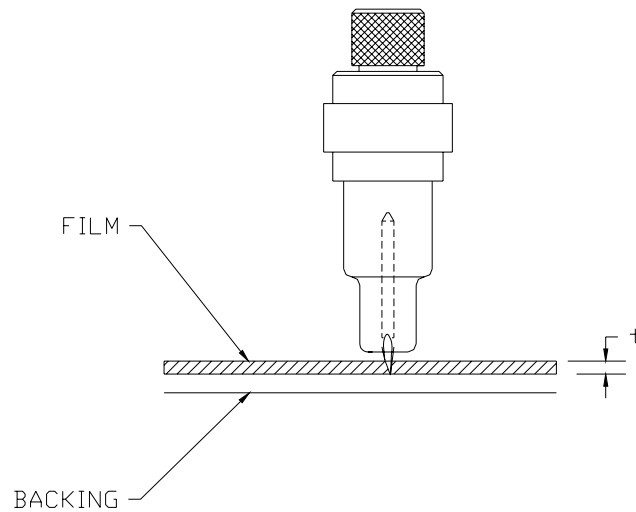

FIGURE 1-10
3. Extend the tip of the blade by the distance required for the desired cutting media (t), as shown in Figure 1-10. The blade should only extend beyond the knife holder sufficiently far to cut completely through the film layer, yet avoid penetrating through the backing, which would risk cutting into and damaging the cutting strip.